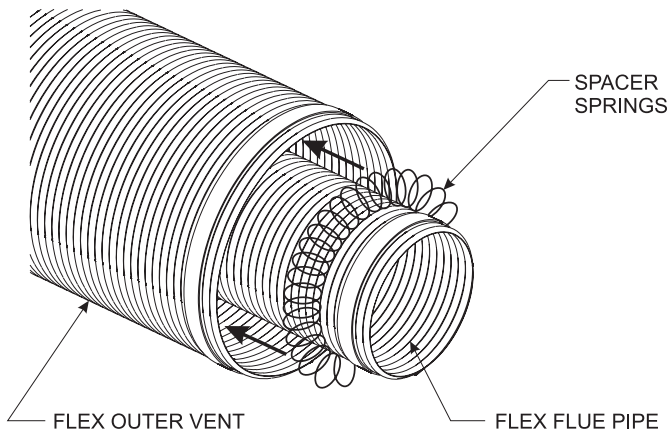

Figure 54
2. Check to see that the vent spacer springs are located around the flue vent at 8" intervals along its length. See Figures 54 & 55. If not, stretch the spacer springs to about 15" long and wrap them around the flue, then interlock the ends of each spring. Maintain equal distance between spring spacers.